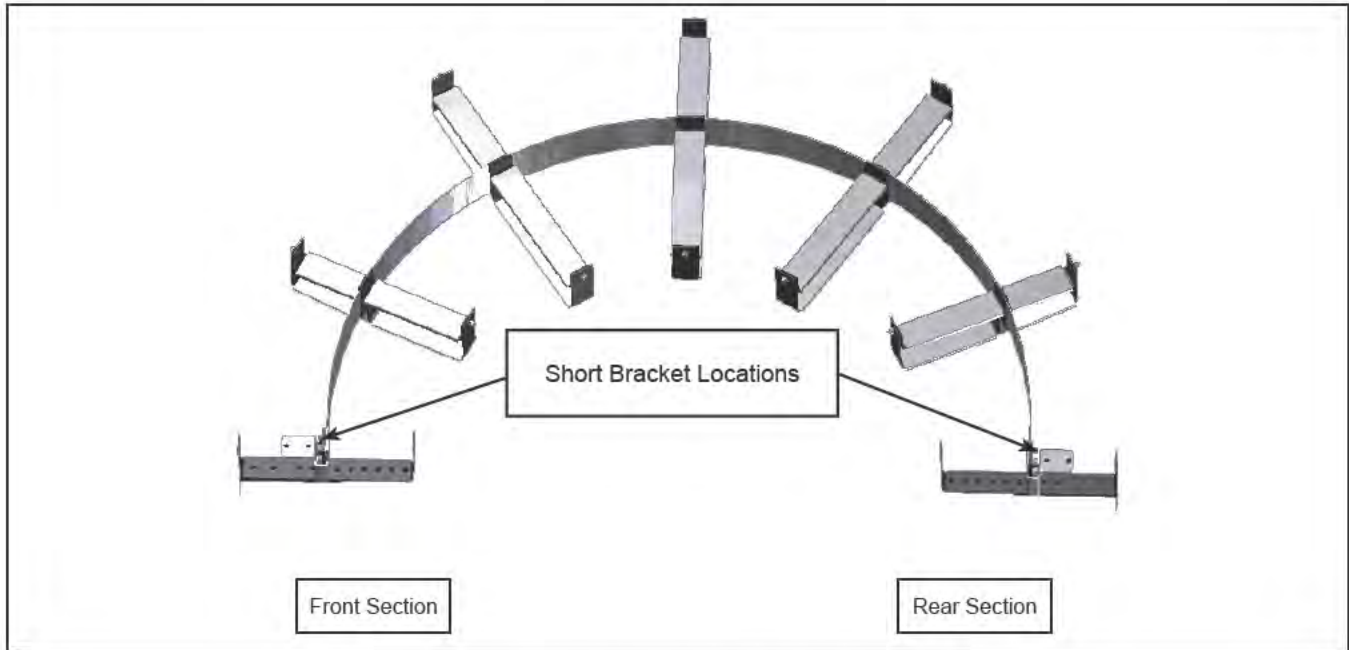

Figure 10 - Bracket Locations for the Main Harness
- 3.7. Use a cable tie to fix the main electrical harness to the short upper stage bracket. See Figures 10 and 11.